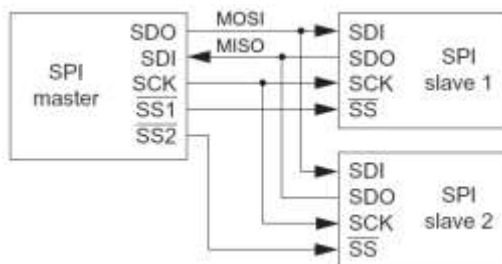

Figure 1: 4-wire SPI bus configuration with multiple slaves
In case of more than one slave on the bus, then the master controls which slave is active by using an active-low slave select (SS) line, one per slave. Only one slave-select line can have a low signal at a time and the low line indicates which slave is active. Unselected slaves must let their SDO output float at high impedance, effectively disconnected from the MISO line, and they should ignore data on the MOSI line. In Figure 1: 4-wire SPI bus configuration with multiple slaves, there are two slaves, and therefore two output slave-select lines from the master SS1 and SS2, and one slave-select input line for each slave. Thus, adding more slaves to the bus means adding more wires. The SPI master connected to two slave devices and each arrow indicates data direction. At a time, only one slave select line can be active (low).